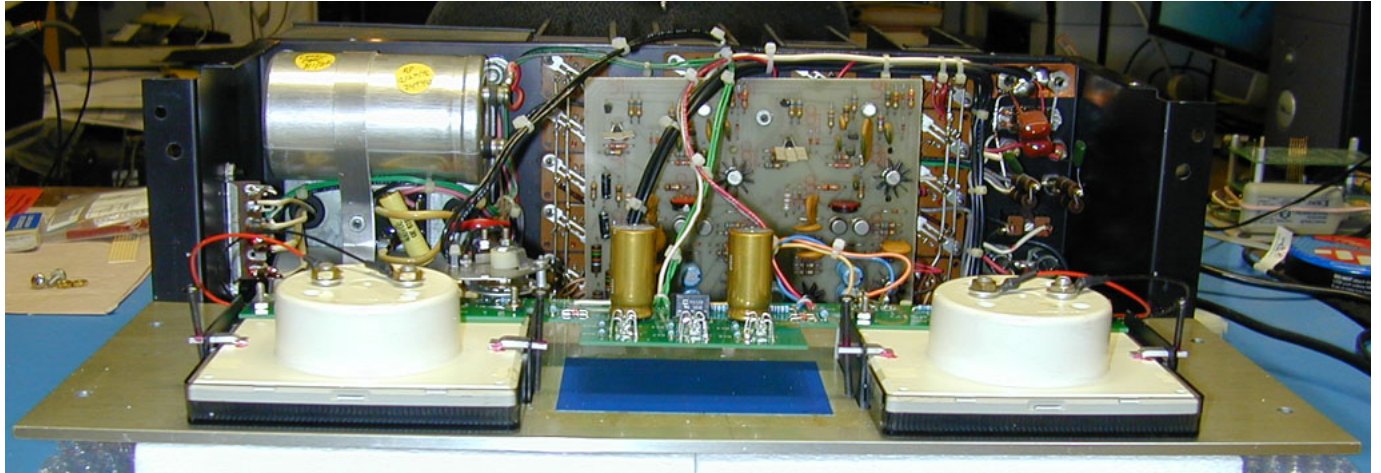
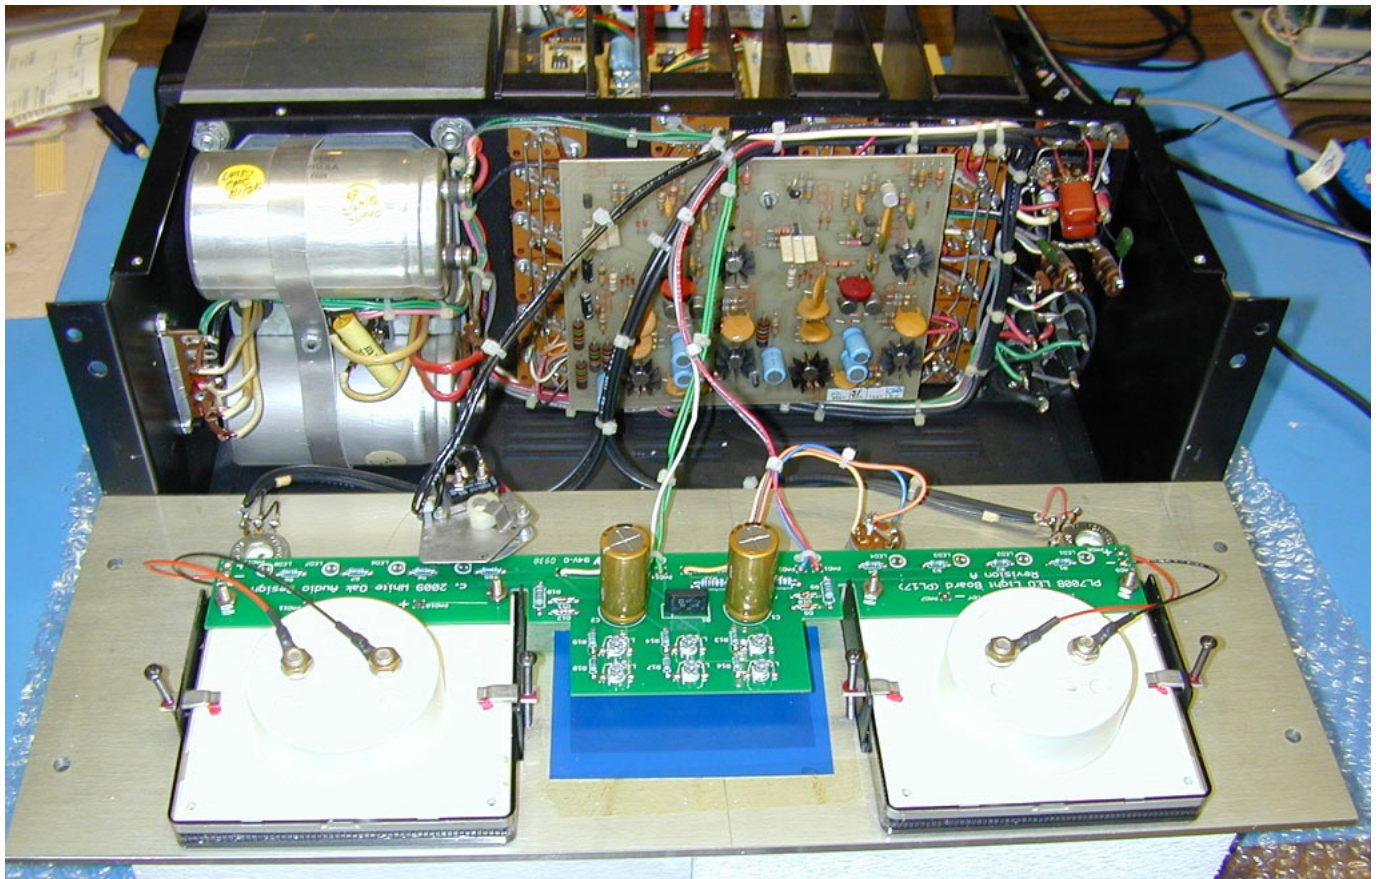

Figure 15. LED Board Assembly Mounted into Amplifier, Front View
Figure 16. LED Board Assembly Mounted into Amplifier, Top View
6. [] After removing the front faceplate screws, carefully pivot the front faceplate down onto the work surface (protected by bubble wrap to prevent cosmetic damage). You may have to support the faceplate with small blocks about 1-1/2” thick in order to work with the service loop provided on the wires in the amplifier (note white Styrofoam blocks shown in Figure 15 and Figure 16 below).
13. [] Using your soldering station, carefully solder the 4 meter wires to the upgrade LED Light Board at the locations labeled PAD8, PAD9, PAD12 and PAD13 as shown below in Figure 12 and Figure 16. The illustrations show these entering from the solder side (non-silkscreen side) of the board and being soldered on the component side (silkscreen side) of the board in order to mimic the assembly of the original light board. It really does not matter which side these wires are soldered on so you can reverse the entry and solder point if you desire (if wiring to PAD6, PAD7, PAD10, PAD11 it is preferable to solder these wires in from the silkscreen side of the board).
22. [] Attach each meter wire to the respective meter terminal using the 3/8" hex nuts removed in the earlier step. The board silkscreen has a + and – marked on it depicting the correct polarity for each meter wire. Use this polarity marking to attach each wire to the correct terminal on the two meters. Each meter has a + sign molded into the plastic casing depicting the positive terminal. Please refer to Figure 16 for a picture of this. Tighten gently using the 3/8" nut driver. **DO NOT OVERTIGHTEN** or you can damage the meters.